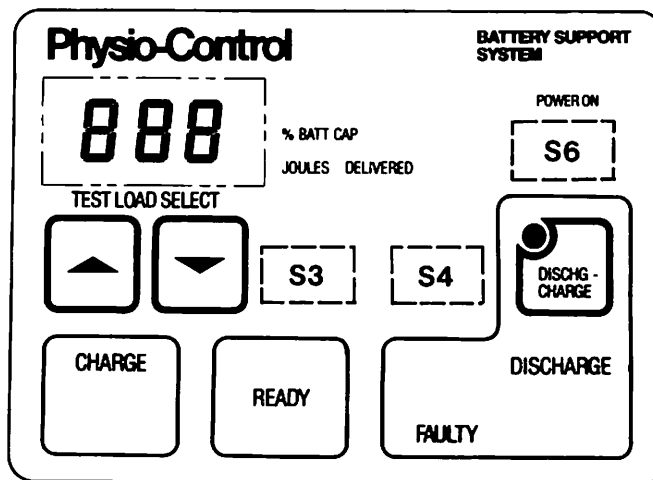

FIGURE 4-2. TEST SWITCH LOCATIONS
- E. Simultaneously depress hidden keypad switches S4 and S6 to enter the on-board self test software (see Figure 4-2).